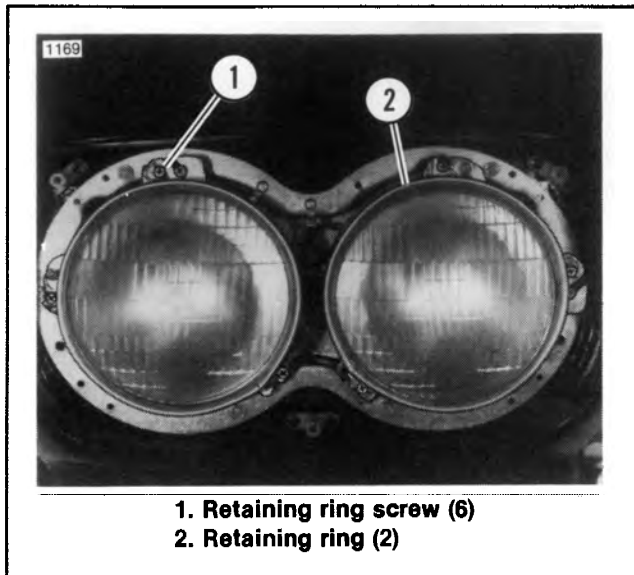
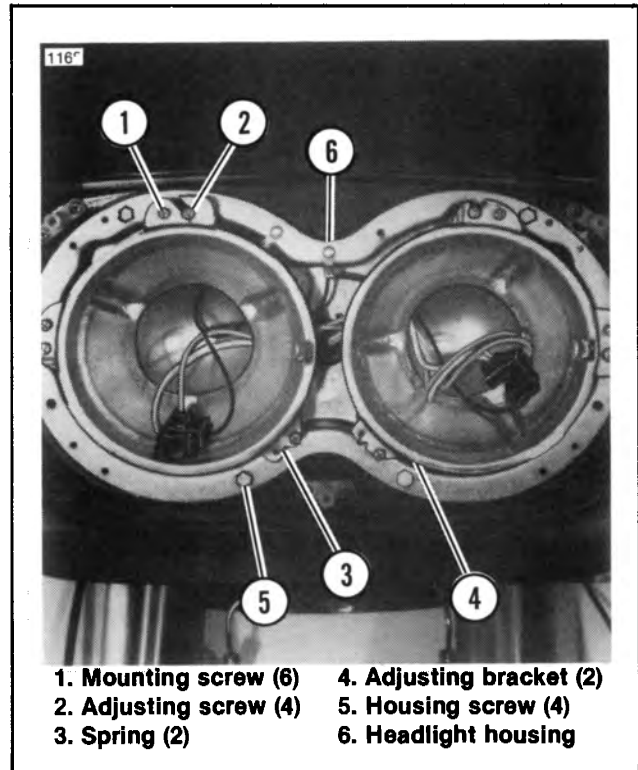

Figure 8-21. Removing Headlamp — FLT/C
Figure 8-22. Removing Headlamp Housing — FLT/C
2. See Figure 8-21. Loosen the retaining screws (1). Turn the retaining ring (2) and remove it.
4. See Figure 8-22. Remove the mounting screws (1), adjusting screws (2), springs (3) and adjusting brackets (4).
5. Remove the screws (5) and the headlamp housing (6).
1. See Figure 8-22. Coat the mating surface of the fairing and headlamp housing (6) with an RTV silicone sealant. Place the housing in the fairing and secure it with new screws (5).
2. Install the adjusting bracket (4) and secure them with springs (3), adjusting screws (2) and mounting screws (1). Plug in new headlamp.
3. See Figure 8-21. Reinstall the ring (2) and tighten the screws (1).